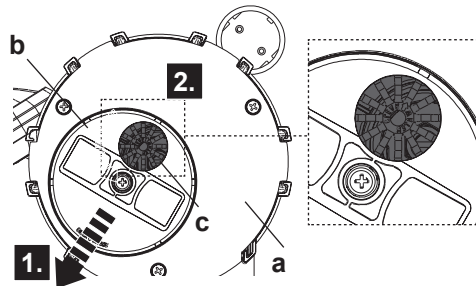

Fig.1
1. Lift the function cover (b) to make it disengaged, then turn it to make the clear water inlet (c) stay in the center of bottom plate (a) (Fig.1).